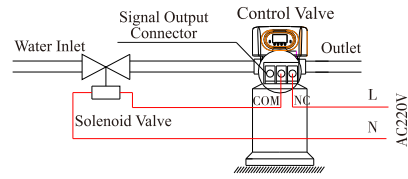

Figure 3-2 Wiring of Solenoid Valve on Inlet
②Control Inlet Solenoid Valve (Set b-02)
**Instruction:** When inlet pressure exceeds 0.6MPa, install a solenoid valve on inlet. Control mode is b-02. Pressure is relieved when valve switching, the wiring refers to Figure 3-2.